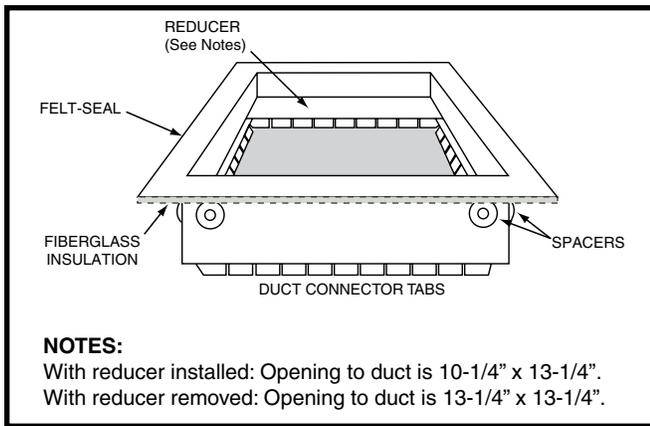

Figure 12. Duct Connector
- NOTE:** The furnace may be installed on combustible flooring when installed on the duct connector. See Figure 12 \(page 16\). This factory supplied accessory must be installed in the floor cavity and attached to the supply air duct before the downflow furnace is installed.
The *RL series gas furnace is certified for use on wood flooring or supports, but must be installed on a special duct connector (Figure 12). This factory supplied accessory must be installed in the floor cavity and attached to the supply air duct before the downflow furnace is installed.